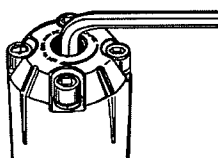

Figure 3
- To **INCREASE** outlet pressure, turn the (6) adjusting screw **CLOCKWISE** (see figure 3).
- To **DECREASE** outlet pressure, turn the (6) adjusting screw **COUNTERCLOCKWISE** (see figure 3).